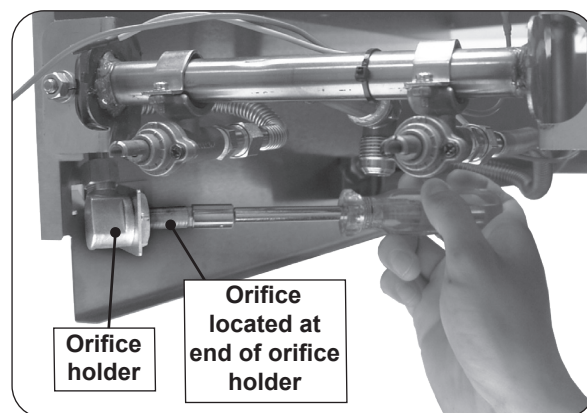

Fig. 39-1 Orifice location
4. Using a $\frac{3}{8}$ " socket nut driver, remove the orifice from the orifice holder (see Fig. 39-1) and check the number stamped on the orifice face.